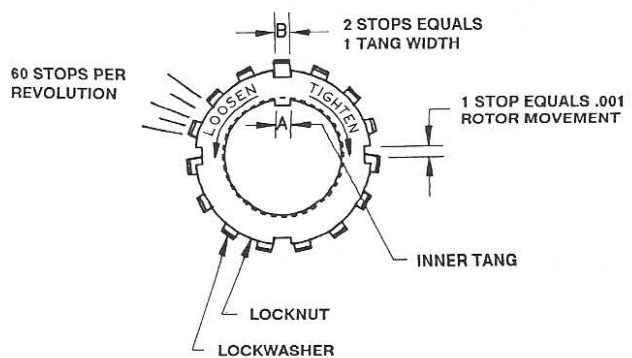

Figure 8 - Locknut Assembly
The purpose of the bearing locknuts and lockwashers is to center and maintain the pump rotor between the discs. Overtightening the locknuts can cause bearing failure or a broken lockwasher tang "A" (see Figure 8). Loose locknuts will allow the rotor to shift against the discs, causing excessive wear.
- e. Back off the nut the width of one lockwasher tang "B" (see Figure 8), or two stops. Secure the locknut by bending the closest aligned lockwasher tang into the locknut slot. The pump should now turn freely when rotated by hand.